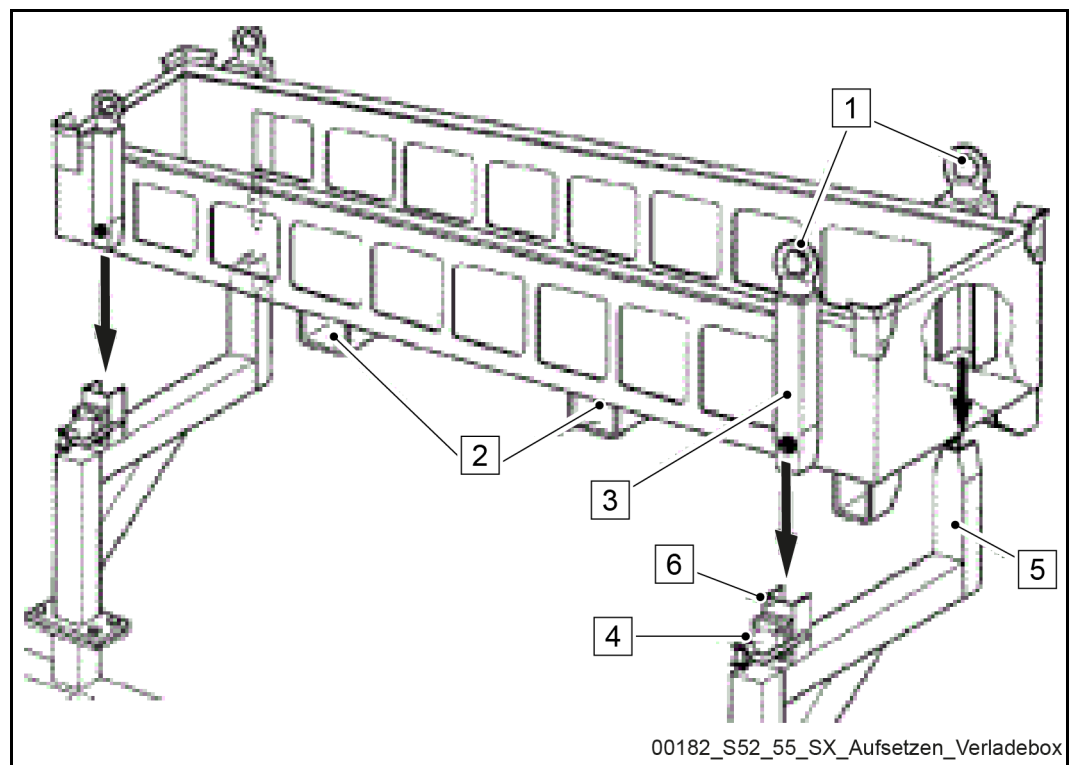

Fig. 487 Positioning the stowing box
The stowing box may only be placed on the machine on the associated carrier system (Fig. 487).
There are two vertical U-shaped beams located on each of the outer- and inner side of the box. They guide the box upon positioning on the carrier system and keep it in place during the drive. A hole is located on each of the smaller, inner guides (3) (Fig. 487) for the bolts of the transport safety devices (4).
- When positioning the box, make sure that the outer guides of the box first slide over the receivers of the girders (5) (**Fig. 487**). Upon further lowering, the inner guides (3) are then taken up by the corresponding U-shaped beams (6) of the girders.
- After lowering the box, insert transport safety devices (4) and remove lifting gear.